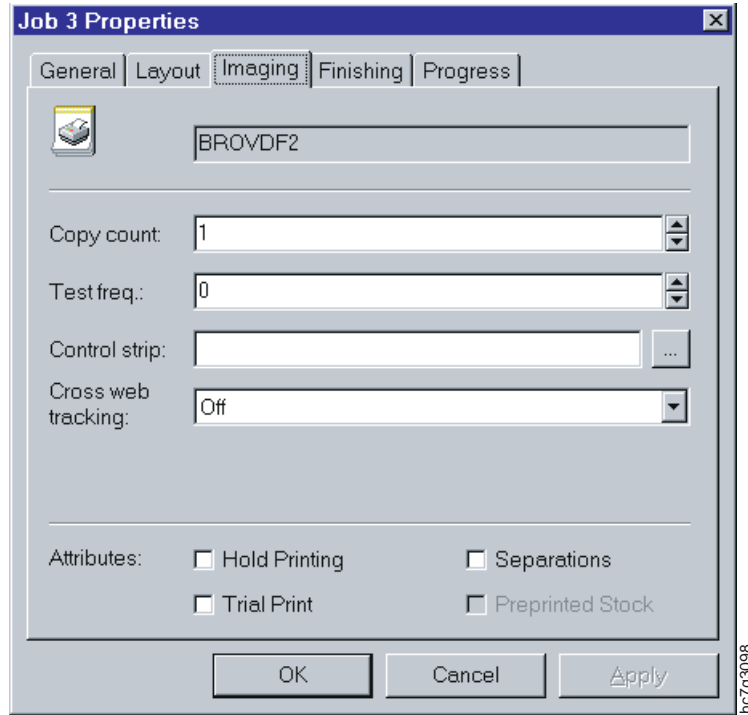

Figure 167. Imaging Tab in the Properties Window
When you select the **Imaging** tab in the **Properties** window, the settings shown in Figure 167 on page 191 are displayed. Table 65 on page 191 describes the terms used in the **Properties** window.
2. Click the **Properties** pushbutton to open the **Properties** window and then select the **Imaging** tab (Figure 167 on page 191).